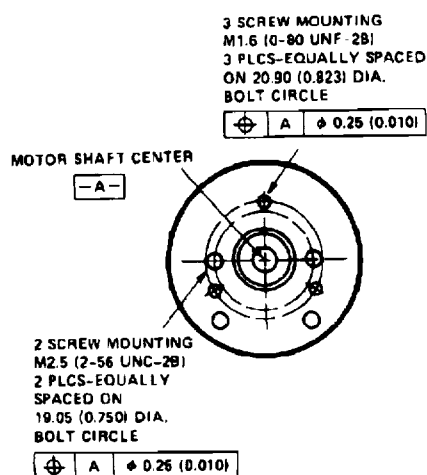
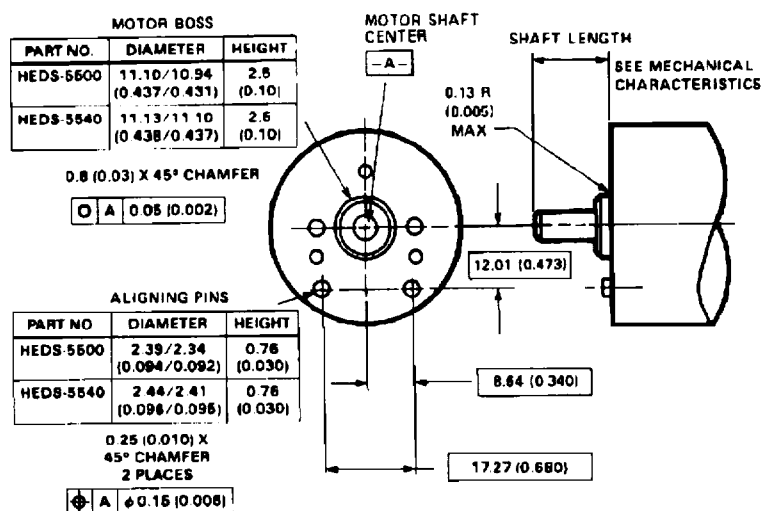

Figure 2. Mounting Holes.
Figure 3. Optional Mounting Aids.
3. The HEDS-5540 and 5640 must be aligned using the aligning pins as specified in Figure 3, or using the alignment tool as shown in "Encoder Mounting and Assembly". See also "Mounting Considerations."
The HEDS-5540 and 5640 three channel encoders and the HEDM Series high resolution encoders must be aligned using the aligning pins as specified in Figure 3, or using the HEDS-8910 Alignment Tool as shown in Encoder Mounting and Assembly.
screw mounting option as shown in Figure 2. The optional aligning pins shown in Figure 3 can be used with either mounting option.